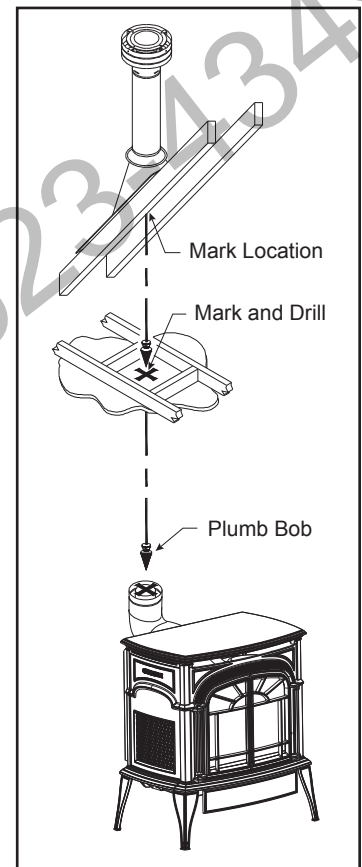

Figure 31
Step 2 - Set the gas appliance in the desired location. Drop a plumb bob from the ceiling to the position of the appliance flue exit, and mark the location where the vent will penetrate the ceiling. Drill a small hole at this point. Next, drop a plumb bob from the roof to the hole previously drilled in the ceiling, and mark the spot where the vent will penetrate the roof, Figure 31. Determine if ceiling joists, roof rafters, framing or other materials will obstruct the venting system. You may wish to relocate the appliance or to offset, to avoid cutting load-bearing members.